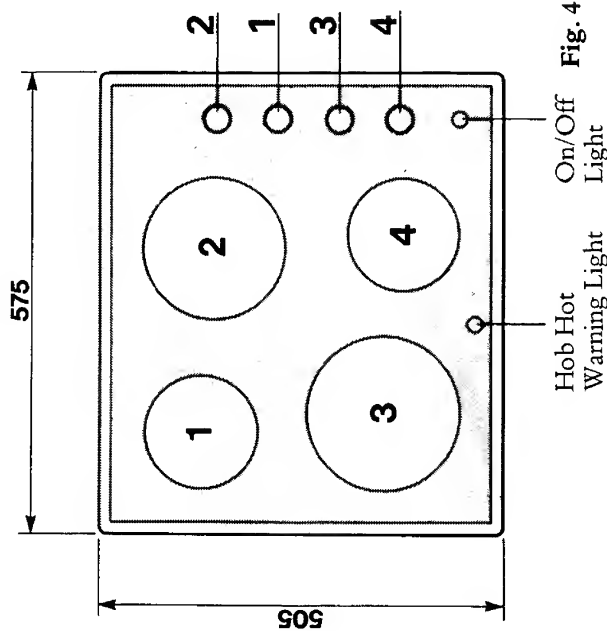

Fig. 4
The equipment has four cooking areas as shown in Fig. 4. The positions are clearly indicated on the hob by circles. Heating only occurs within the circles marked on the hob.
The relevant control for each heating area is shown in Fig. 4. Each control can be used to select one of six temperature settings from a minimum at position 1 to a maximum at position 6 (see Fig. 5). For normal cooking, after having placed the pan on the required hob position, set the control knob to maximum (6); wait until boiling point is reached, then set the knob to a lower position as required. See chart below for guide to control settings.